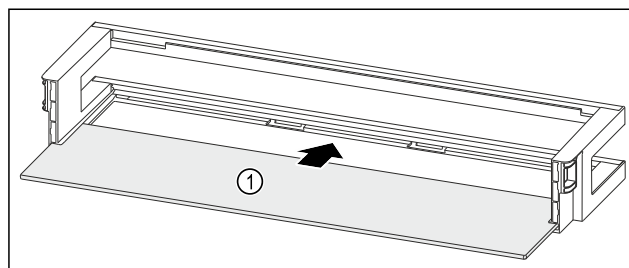

Fig. 127 Door racks with shelf
- Push the shelf Fig. 127 (1) into the side cutouts.